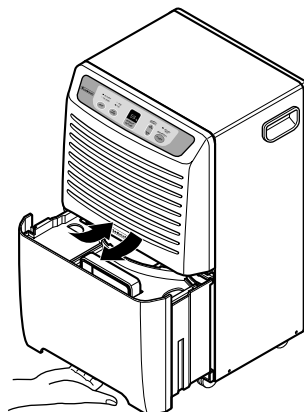

Figure 3
3. Remove the bucket. (See Figure 3)